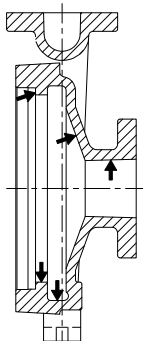

Figure 27
- ÿ You should inspect the inside of the body and the gasket body surface, if you have slots than 1/8" it should be repaired or replaced (see Figure 27).